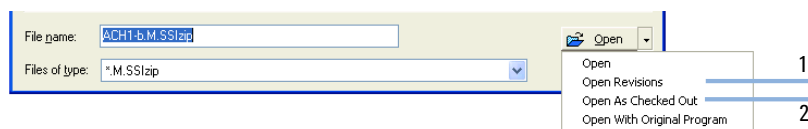
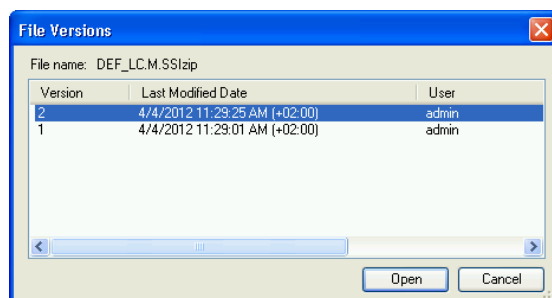

Figure 22 Open Revisions command
Figure 23 File versions dialog
In order to see more details regarding the type and version of the available items, select the **Detail** view (see Figure 21 on page 63, marker 3). To open an older version of an item, select the **Open Revisions** command from the **Open** menu (see Figure 22 on page 64, marker 1). This opens the **File Versions** dialog, where all available versions of the item are listed (see Figure 23 on page 64).
- 3 Select **Open** in either dialog to download the item to ChemStation. To prevent other users from modifying the item, select the **Open As Checked Out** command. The item is then marked as checked out in the central data storage system (see Figure 22 on page 64, marker 2).